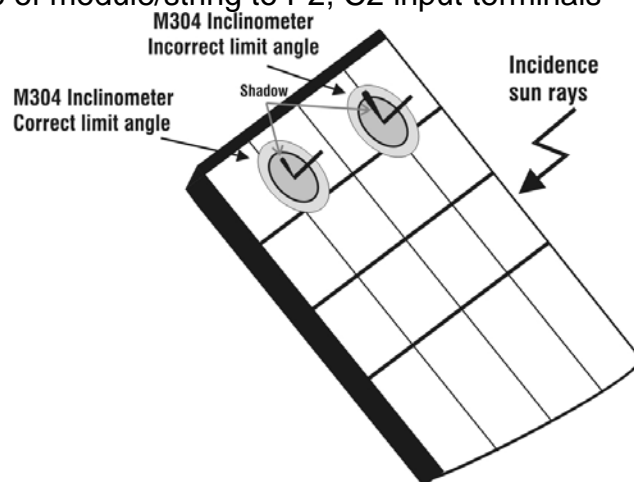

Fig. 8: Positioning the M304 inclinometer
16. Mount the M304 (inclinometer) supplied accessory, place and hold it on the plane of module. **Verify that the sun shadow falls on the disc within the “limit internal circle” on the disc itself (see Fig. 8). If this is not the case, the incidence angle between sun rays and the module surface is too high and not complying with the test conditions declared by the module manufacturer. As a consequence the measurements performed by the meter are not ok and all measurements steps shall be repeated at another daytime**